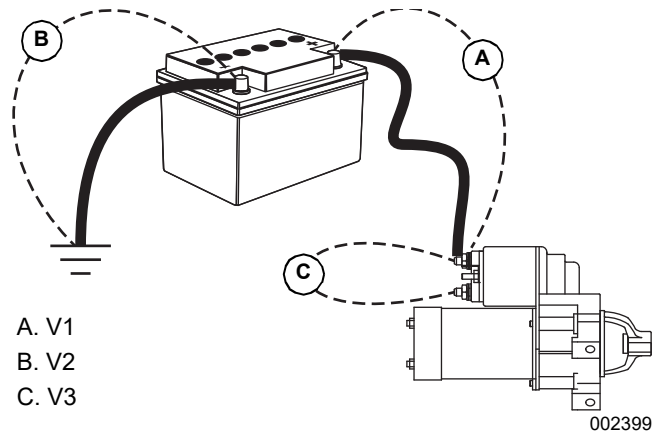
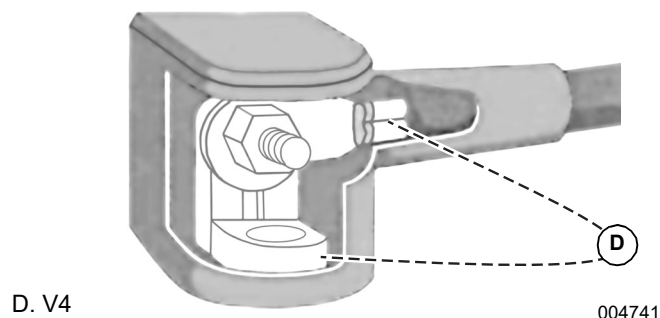

Figure 3-6. Starter Circuit Voltage Drop Test Connections
Figure 3-7. Starter Circuit Voltage Drop Test Connections
4. Refer to battery post and starter connections in Figure 3-6 and Figure 3-7 then perform a voltage drop test as indicated.